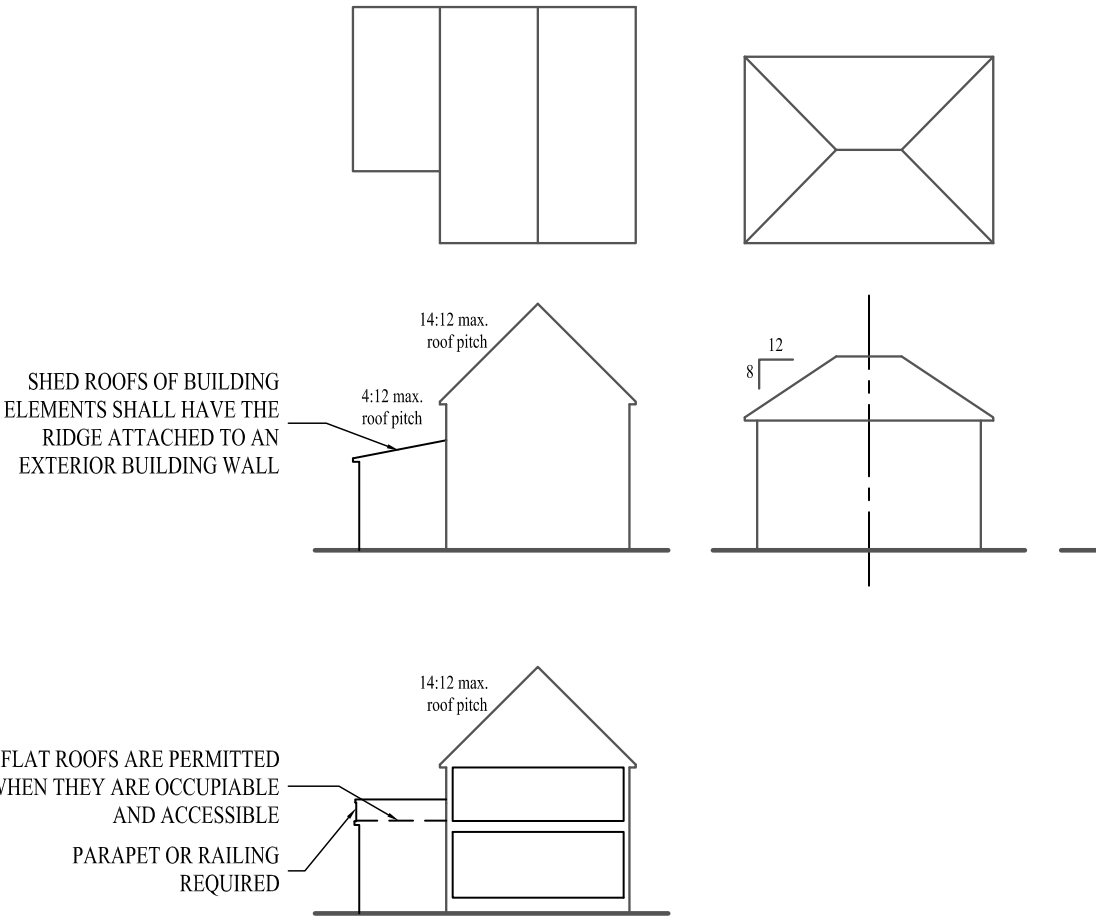

Figure 18
- » On the primary structure the pitch of the main roof shall be between 8:12 and 14:12. Secondary roofs on the principal structure, subject to Village approval, as well as garage and link roofs may have shallower pitches but shall relate to the main house roof (hips with hips and gables with gables). See Figure 18.
- » Flat roofs and balustrades are permitted only when the flat roof is occupiable and accessible. See Figure 18.
- » Shutters shall be applied to all or none of the windows on any given elevation and on both frontage elevations on a Corner Lot. Shutters shall be shaped, sized, and proportioned to the windows they serve, both in height and width. See Figure 18. The Village may approve the elimination of shutters on paired or unique windows.